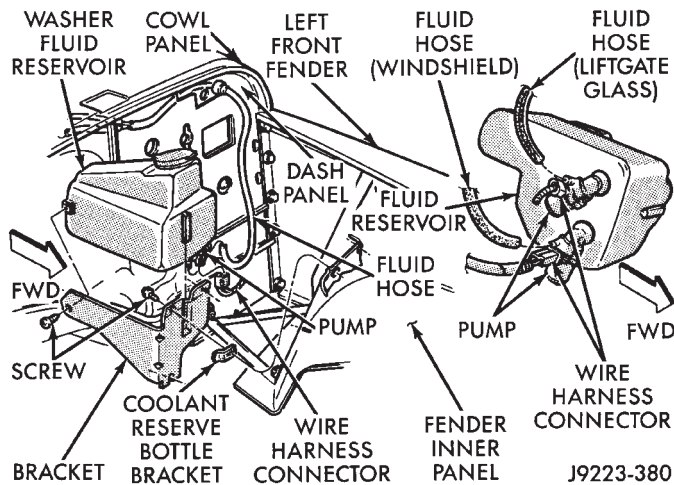

Fig. 25 Windshield Washer Fluid Reservoir
- remove the windshield washer fluid reservoir and coolant reserve bottle from the fender inner panel (Figs. 25 and 26).